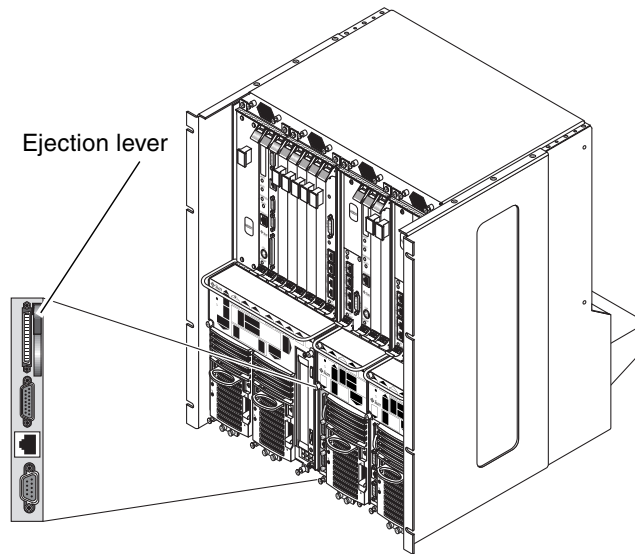

FIGURE 6-13 Host CPU Front Transition Card Location in a Netra CT 410 Server
FIGURE 6-13 shows the location of the host CPU front transition card in a Netra CT 410 server.
6. Flip up on the ejector lever to unseat the card from the card cage (FIGURE 6-13).
4. **Press down on the ejector lever to seat the card into the card cage** (FIGURE 6-13).